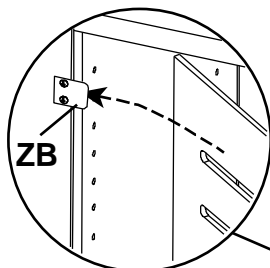

Fig. 2a
2. You may want to remove the Removable Backs (D) so that you can fit your media units into the console more easily. To do so, unlock the Turn Button (ZC) as shown in Figures 2 and 2b. Slide the Backs away and place them off to the side. To put them back into place, slide the Backs behind the Drawer Stops (ZB) and position the Turn Button so that it is locked. See Figures 2a and 2b.